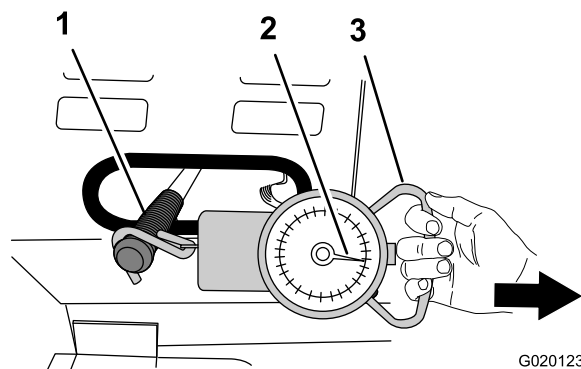

Figure 61
4. Attach a spring scale with a range of 15 to 30 kg (35 to 55 lb) to the grip of the clutch lever (Figure 61).
5. Using the spring scale, pull the clutch handle to the On position as shown in Figure 61.
6. Observe the spring scale while pulling to see what the highest pressure is when moving the clutch handle from the Off position to the On position (Figure 61).